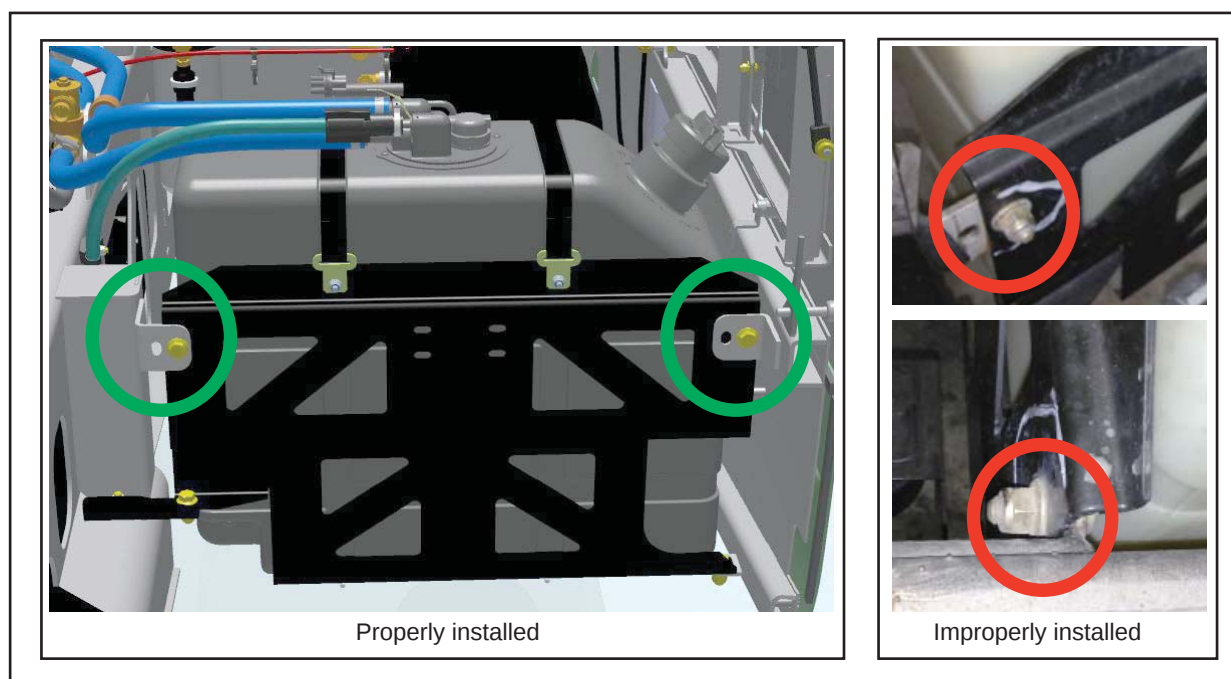

Figure 3 - DEF Tank Support Position
- 1.11. Install the DEF tank support. The top of the support must rest against the front side of the chassis brackets (DEF tank side). See Figure 3.